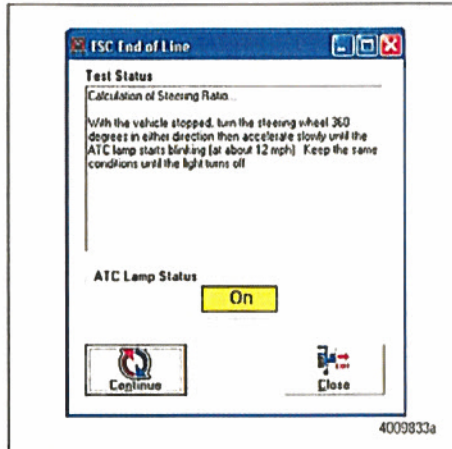

Figure 14
1. After completing the Straight Driving Portion, the next message will appear. Carefully read the message box and follow the instructions. Figure 14.